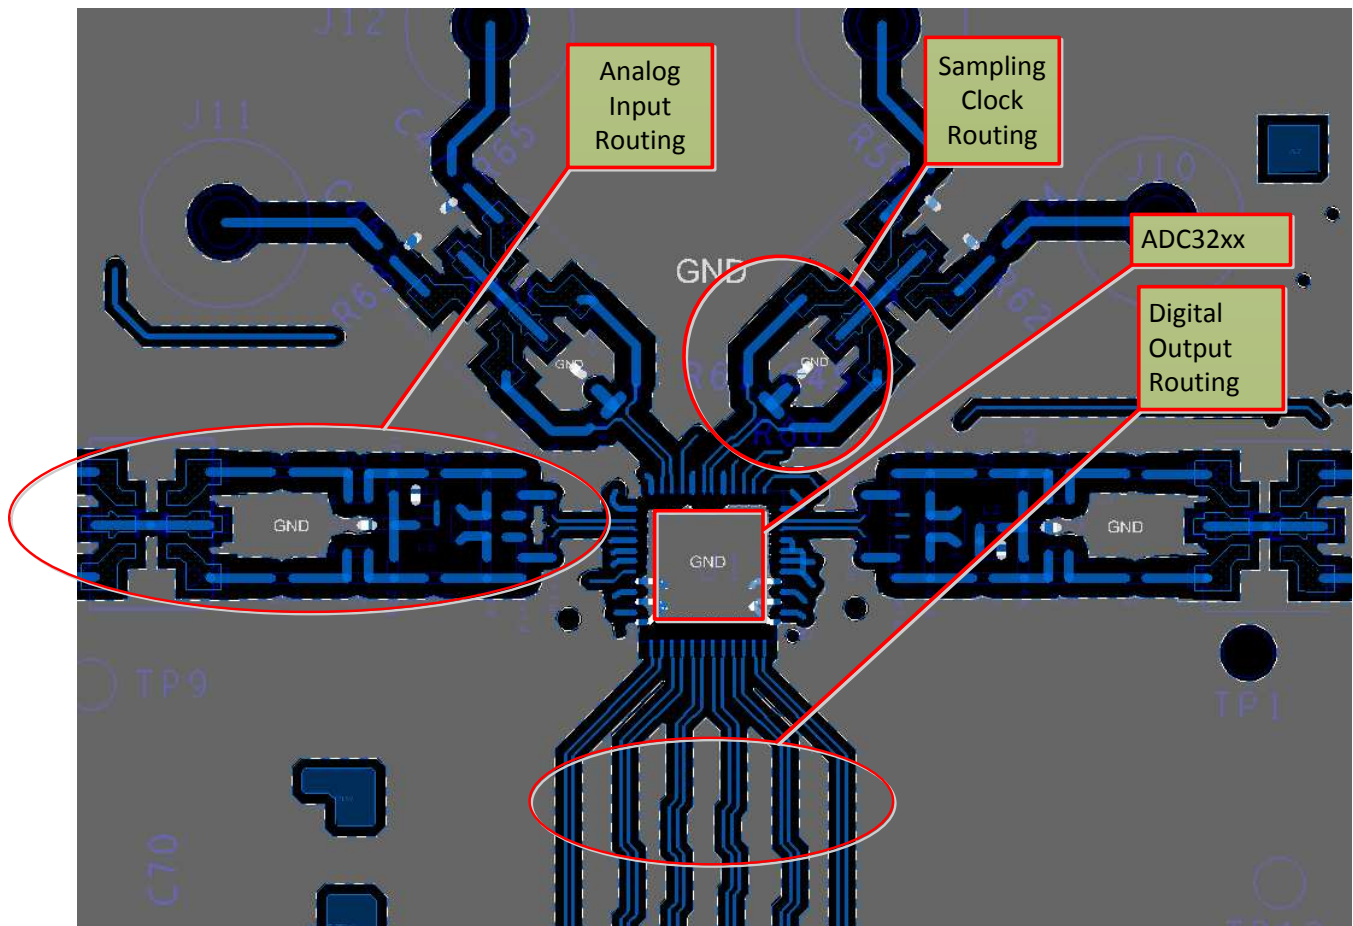

Figure 57. Typical Layout of the ADC322x Board
The ADC322x EVM layout can be used as a reference layout to obtain the best performance. A layout diagram of the EVM top layer is provided in Figure 57. Some important points to remember during laying out the board are:
1. Analog inputs are located on opposite sides of the device pin out to ensure minimum crosstalk on the package level. To minimize crosstalk onboard, the analog inputs should exit the pin out in opposite directions, as shown in the reference layout of Figure 57 as much as possible.
2. In the device pin out, the sampling clock is located on a side perpendicular to the analog inputs in order to minimize coupling between them. This configuration is also maintained on the reference layout of Figure 57 as much as possible.